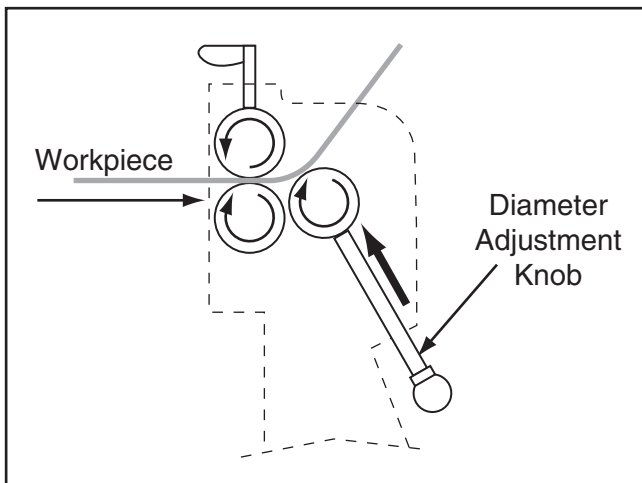

Figure 25. Making the initial bend to create a cylinder.
4. Turn the diameter adjustment knobs clockwise to lift the rear roller until the desired radius bend is reached, as illustrated in **Figure 25**. Make sure to turn the knobs equal amounts so the rear roller is always parallel with the other rollers. Failure to do so will create a larger radius on one end than the other, resulting in a cone shape.